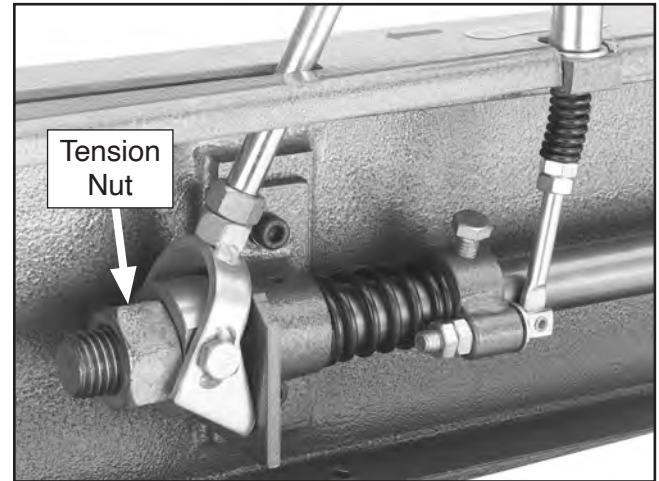

Figure 57. Location of tension nut.
7. Rotate tension nut counterclockwise to increase belt tension or clockwise to decrease belt tension (see **Figure 57**).